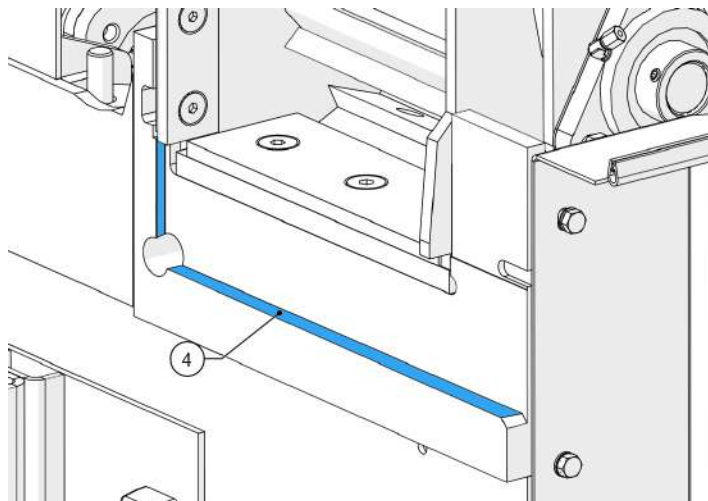

Figure 71 - Anvil seat
12. Make sure the anvil seats are free from dirt and debris before inserting anvil (4, Figure 71).